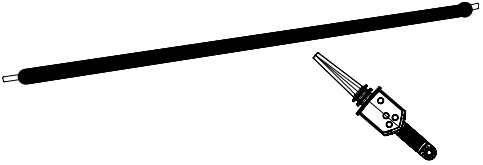

Fig.1 Voltage detection in a line
4. Place the probe tip of the TIC 300 PRO near, but not touching the low (<1000 V) voltage line. See Fig.1